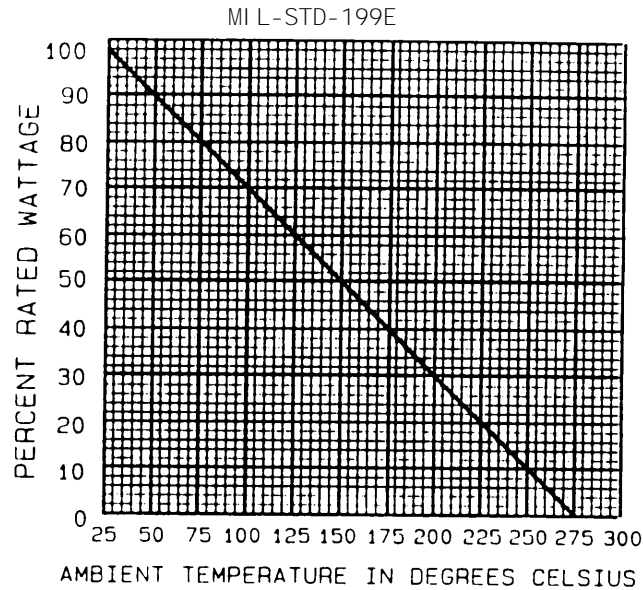

FIGURE 304-1. Derating curve for high ambient temperature.
2.2 Derating at high temperature. The power rating is based on operation at  $+25^{\circ}\text{C}$ ; however, when a resistor is to be used in a circuit where the surrounding temperature is higher than  $+25^{\circ}\text{C}$ , a correction factor must be applied to the wattage rating so as not to overload the resistor. This correction factor may be taken from the curve shown on figure 304-1.